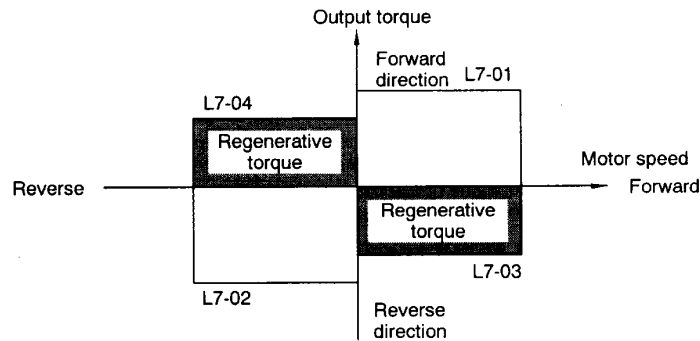

Figure 7.14 Torque Limit Function
- Figure 7.14 shows the relationship between each constant and the output torque.